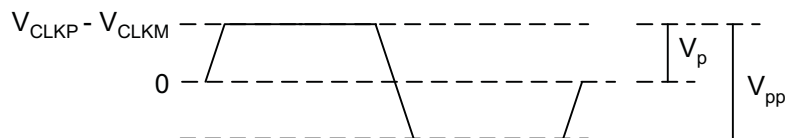

Figure 3. Clock Amplitude Definition Diagram
(6) Refer to Figure 3 for the definition of clock amplitude.